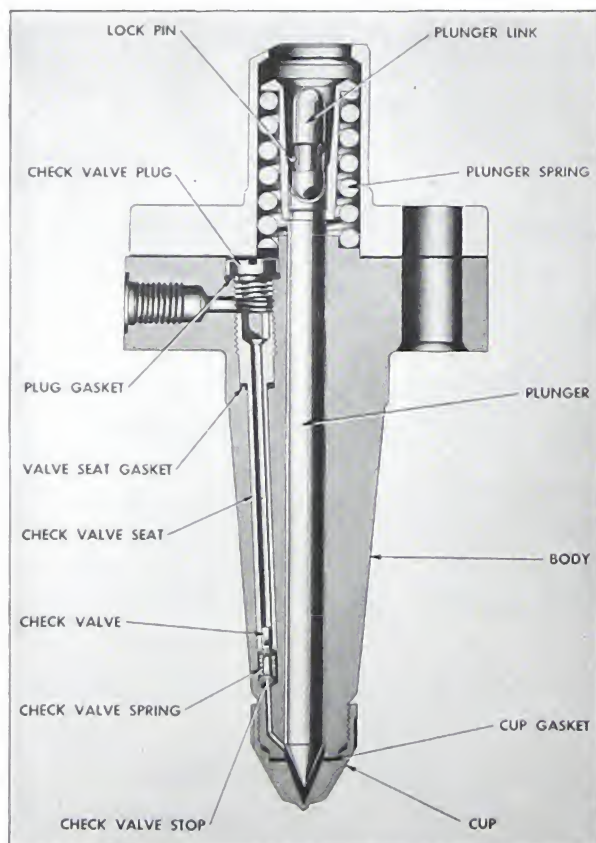

Fig. 6-3. Standard type injector
1. Cummins manufactures and supplies two injectors. They differ only in the manner in which the injector plunger is sealed to prevent mixture of fuel and lubricating oil. The standard type injector has a top housing and cover. The tractor type injector uses a plunger seal instead of the top housing and cover to prevent fuel oil from getting past the drain to cause crankcase dilution. See Fig. 6-3 and 6-4.
2. Install a new copper valve seat gasket, then place the check valve in position coating it with clean cup grease so that it will not fall out while inserting the check valve seat assembly in the injector body. Screw the seat securely in place. See Fig. 6-3.